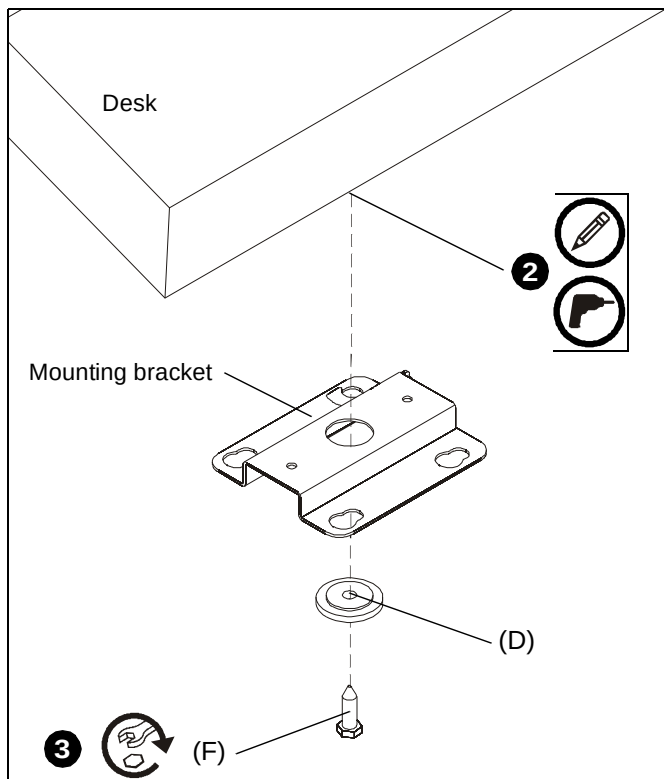

Figure 16
2. Using bracket and swivel bearing (D) as a template, mark and drill one 17/64" diameter pilot hole through underside of desk at desired mounting location. Ensure entire mount will clear the outer edge of desk. (See Figure 16)
3. Install 3/8 x 1-1/4" hex head lag screw (F) through bearing (D) and mounting bracket into hole drilled in Step 2. (See Figure 16)